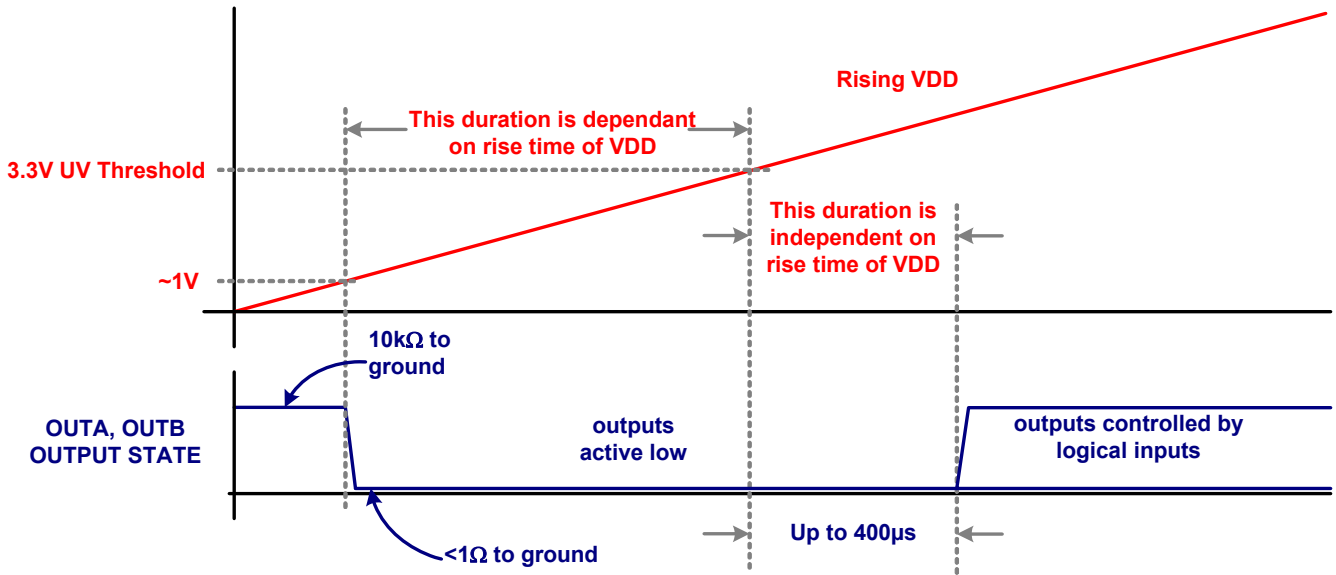

FIGURE 9. START-UP SEQUENCE
11. A 400 $\mu s$  delay further inhibits the release of the output state when the UV positive going threshold is crossed. See Figure 9.
The start-up sequence for is designed to prevent unexpected glitches when  $V_{DD}$  is being turned on or turned off. When  $V_{DD} < \sim 1V$ , an internal  $10k\Omega$  resistor connected between the output and ground, help to keep the gate voltage close to ground. When  $\sim 1V < V_{DD} < UV$ , both outputs are driven low while ignoring the logic inputs. This low state has the same current sinking capacity as during normal operation. This insures that the driven FETs are held off even if there is a switching voltage on the drains that can inject charge into the gates via the Miller capacitance. When  $V_{DD} > UVLO$ , and after a  $400\mu s$  delay, the outputs now respond to the logic inputs. See Figure 9 for complete details.